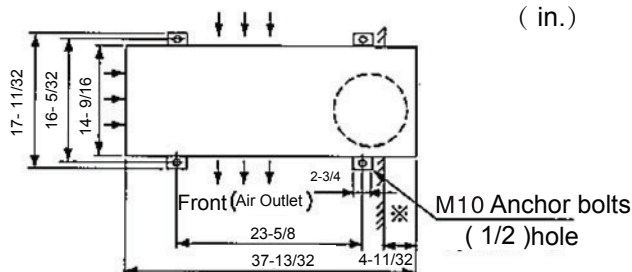

Fig. 4.3 Position of Anchor Bolts
- (2) When installing the outdoor unit, fix the unit by anchor bolts. Refer to Fig. 4.3